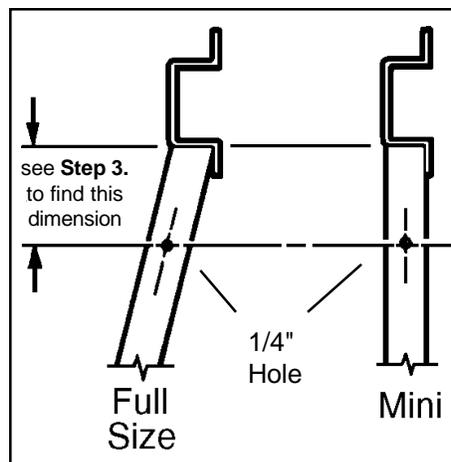

Figure 3. Marking Detail
3. Measure from the bottom of the Crossmember to the center of the brake light on the cab. Subtract 1-5/8" from that dimension. Use this dimension to mark and drill the top holes on the legs (see Figure 3).